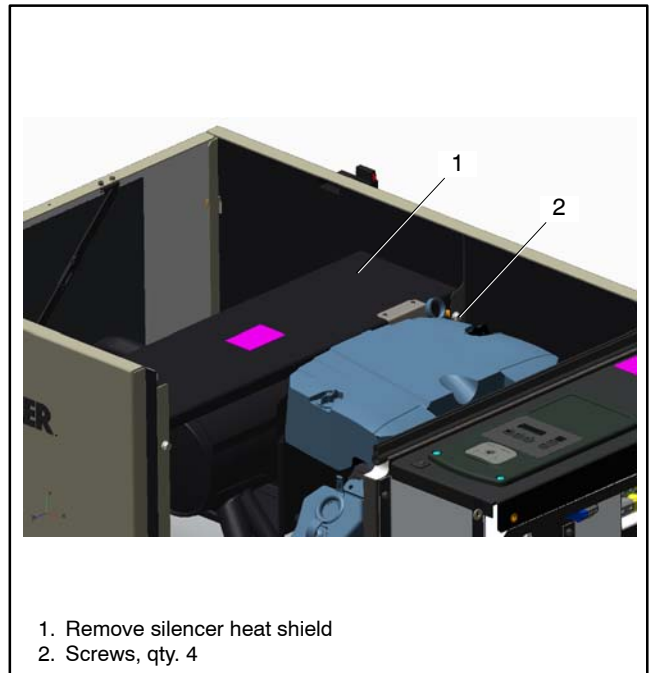

Figure 7-14 Heat Shield Removal
- Remove the heat shield over the silencer by removing four screws. See Figure 7-14.